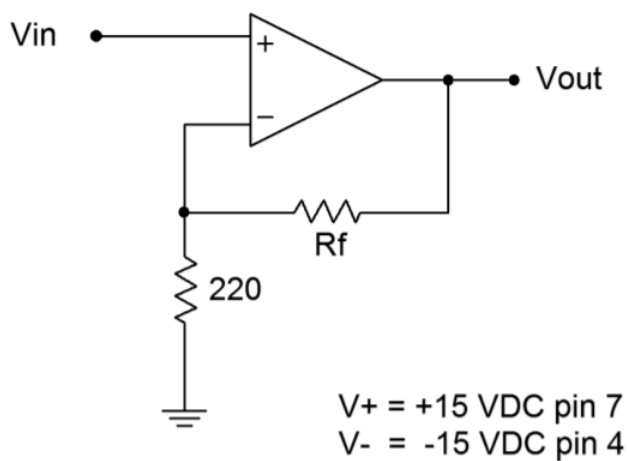

Figure 8.5.1
1. The upper break frequency, f_2 , of the amplifier in Figure 8.5.1 can be determined from its voltage gain and the f_{unity} of the op amp. Calculate the f_2 values for the amplifier of Figure 8.5.1 for the R_f values specified, and record them in Table 8.7.1.
2. Assemble the circuit of Figure 8.5.1 using the 4k7 Ω resistor.